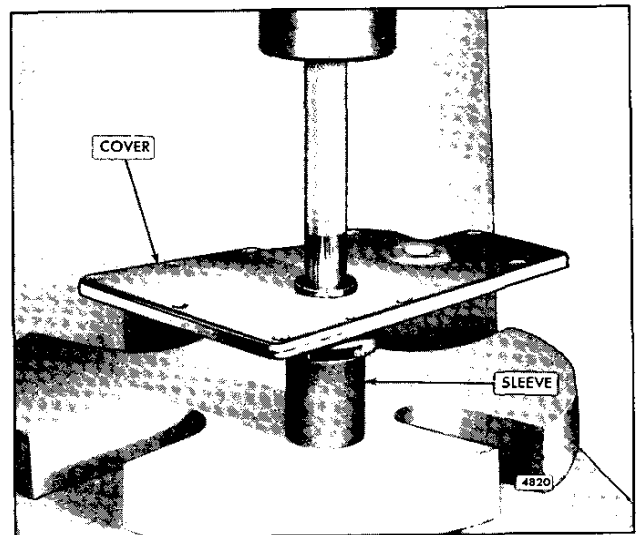

Fig. 3 – Removing Stop Lever Shaft Bushing from Governor Cover Using Tool J 21967-01
- f. If bushing removal is necessary, support the inner face of the cover over the opening in the bed of an arbor press. Place the remover J 21967-01 on top of the stop shaft bushing and press the bushing out of the cover (Fig. 3).